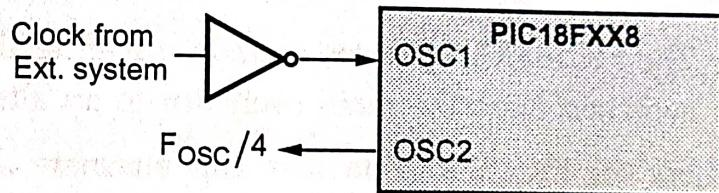

Fig. 2.9.3 Pin connections for EC Oscillator mode
- Fig. 2.9.3 shows the pin connections for the EC Oscillator mode.